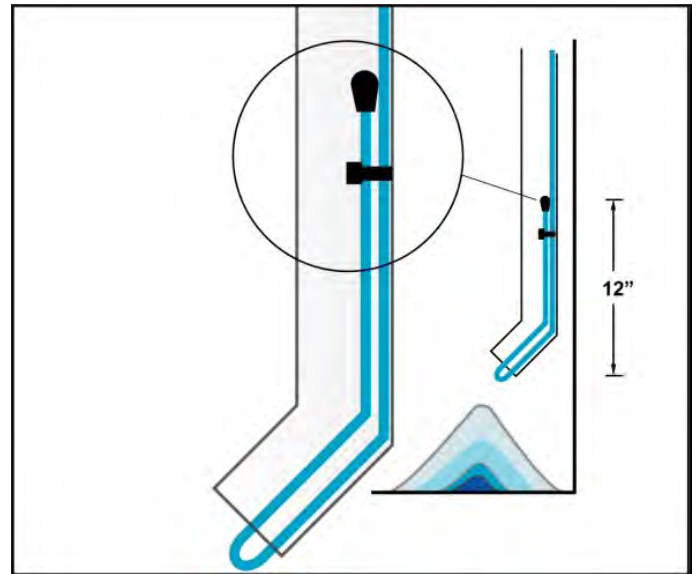

Figure 9: Downspout Termination
1. The preferred method of installation is to run the heating cable into the downspouts, ending the cable in a loop at the bottom of the downspout and then run the cable back up the downspout into the gutter. This way there is no end seal in the downspout. For single cable runs in downspouts with an end seal use a tie wrap to fasten it as shown in Figure 9. Do not leave the end of the heating cable pointing down at the end of the downspout, double back as shown. Never create a situation where an end seal is positioned to be a drip point at the end of a cable run.